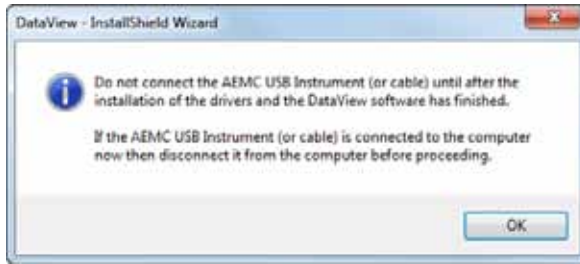

Figure 8-3
13. If the instrument selected for installation requires the use of a USB port, a warning box will appear, similar to Figure 8-3. Click **OK**.